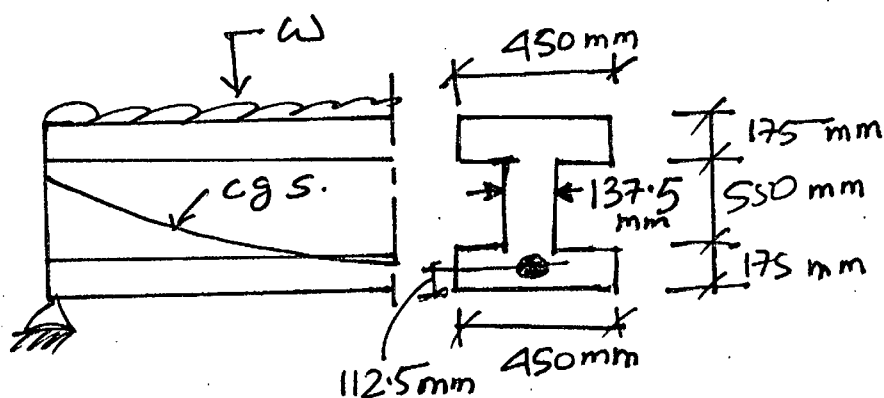

Fig. 2
(b) An I-shaped beam is prestressed with  $A_{ps} = 2368 \text{ mm}^2$  as prestressing steel with an effective stress,  $f_{se}$  of 1103 N/mm2. The c.g.s of the strands which supply the prestress is 115 mm above the bottom of the beam as shown in Fig. 2 along with shape of the concrete section. Material properties are  $f_{pu} = 1862 \text{ N/mm}^2$  and  $f'_c = 48 \text{ N/mm}^2$ . Find the ultimate resisting moment for the section for design following the ACI code. (16)
3. (a) Make an initial design for section of a prestressed beam to resist a total moment of 750 kN-m of which  $M_G = 300 \text{ kN-m}$ . Assume  $f'_c = 15 \text{ MPa}$ ,  $f_{se} = 980 \text{ MPa}$  and a trial depth of  $41\sqrt{M_T}$  (mm) where  $M_T$  in kN-m. (10)
- (ii) Check whether the composite deck detailing along with the shear connectors for this floor system as shown in Fig. 2. satisfies the requirements of AISC specifications.